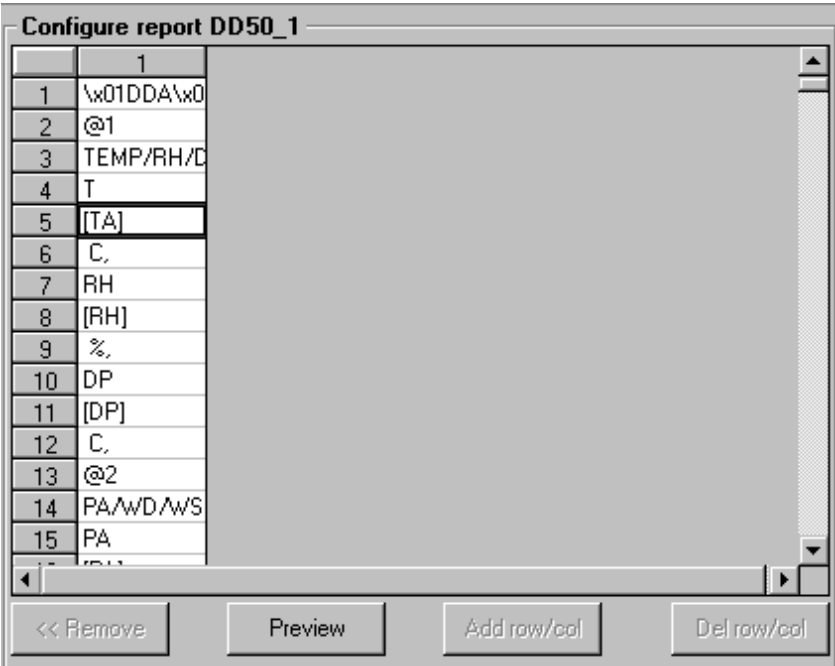

Figure 55 Preformatted Report Template with Tags
3. See Figure 55 on page 115 for the contents that appear in the **Configure report** frame. A preformatted report initially has no actual variables linked to it. Cells to which the variables should be placed are indicated by tags, that is, variable abbreviations enclosed in square brackets, for example, **[TA]** and **[RH]**. In the information pane, the report information lists the required variables for the tagged cells. You can retrieve the list by clicking the report in the **Existing reports** list or by clicking the original template in the **Available templates** list.